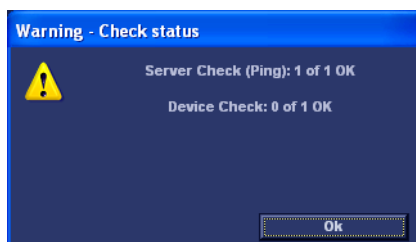

Figure 3-86 Test (Check) Fails directly
- If the test fails, a pop-up dialog reporting the results as "0 of 1 OK" is displayed. In the example in Figure 3-86 "Test \(Check\) Fails directly" on page 3-91, the warning message pop up almost at once, and it states that for the Server Check (Ping), 1 of 1 is OK but the Device Check failed (0 of 1 OK). This indicates that the network connection functions OK, but the application on the remote server is not answering.